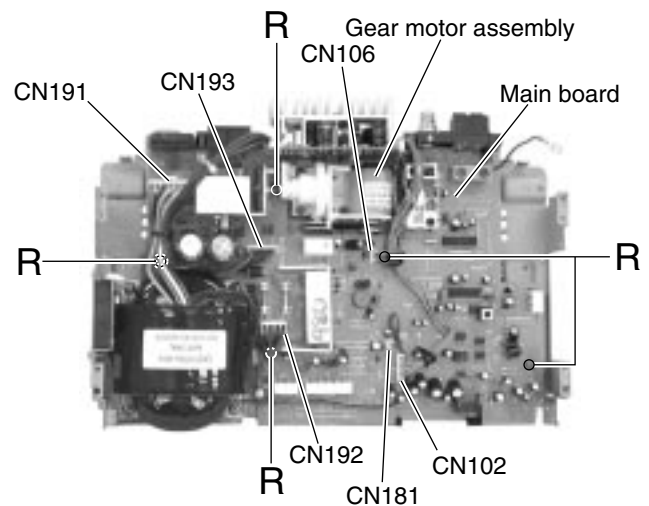

Fig.27
**■Removing the main board (See Fig.27)**